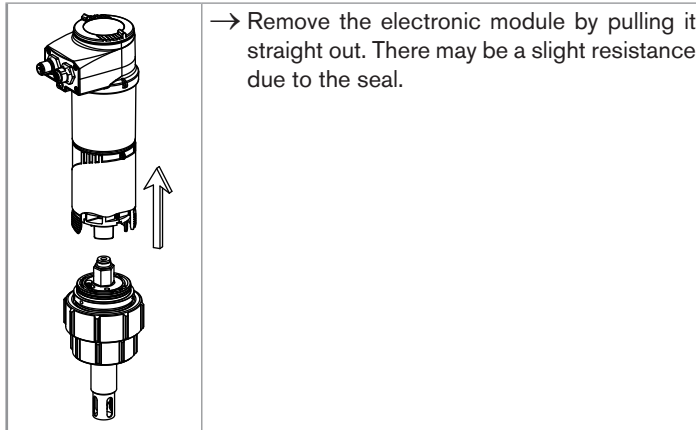

Fig. 12: Remove the electronic module from the sensor holder (8202)
- Once the transmitter has been calibrated, remove the electronic module from the sensor holder as shown in Fig. 12.